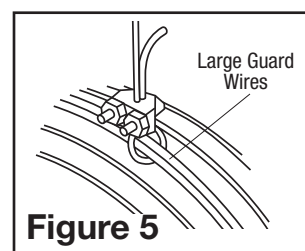

Figure 5
1. Loop one end of cable around the large guard wires of both the front and rear grills (Figure 5).
2. Attach a Cable Clamp with the "U" on the tail side of the loop leaving a tail approximately 1 to 2 inches. Tighten Clamp Nuts. Make sure no part of the Cable interferes with the Blade (Figure 5).